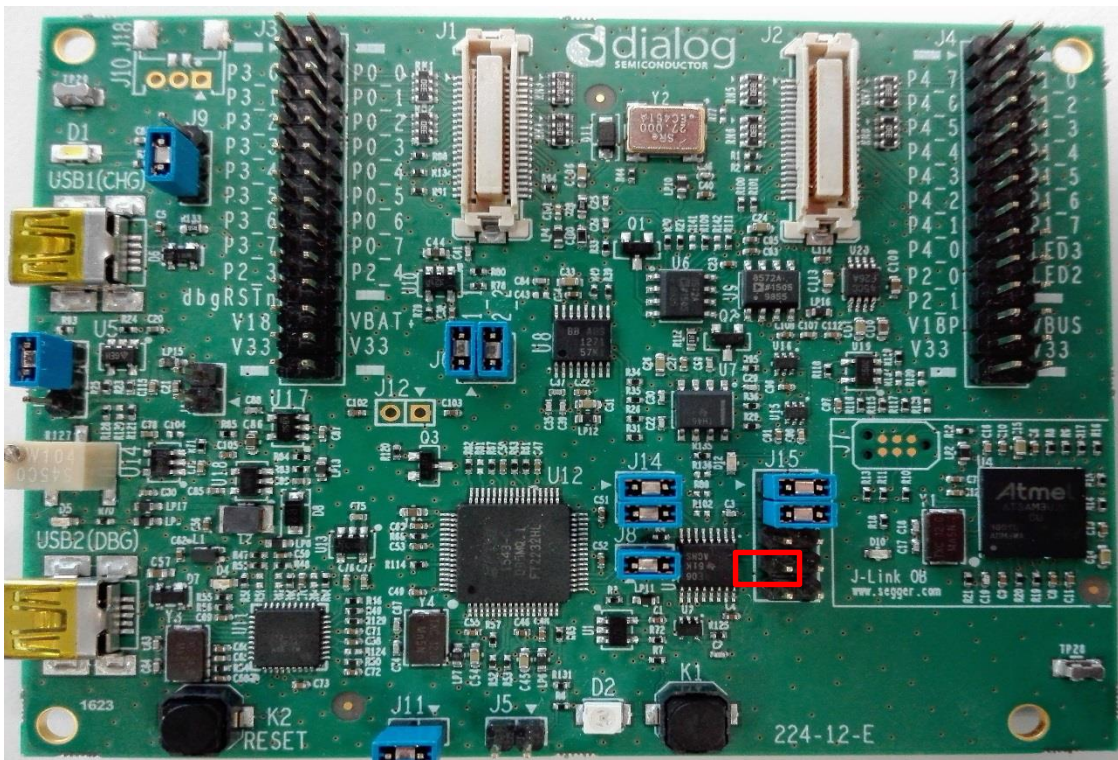

Figure 39: Sleep current measurement
**Note 5** to measure properly the sleep current with the Power Profiler tool on ProDK or with an external tool the Tera Term UART over USB session must be terminated or remove J15. 7-8 jumper to de-assert CTS as shown in Figure 39. If a UART is required in this configuration use the direct connection to breakout header described in section 7.1.